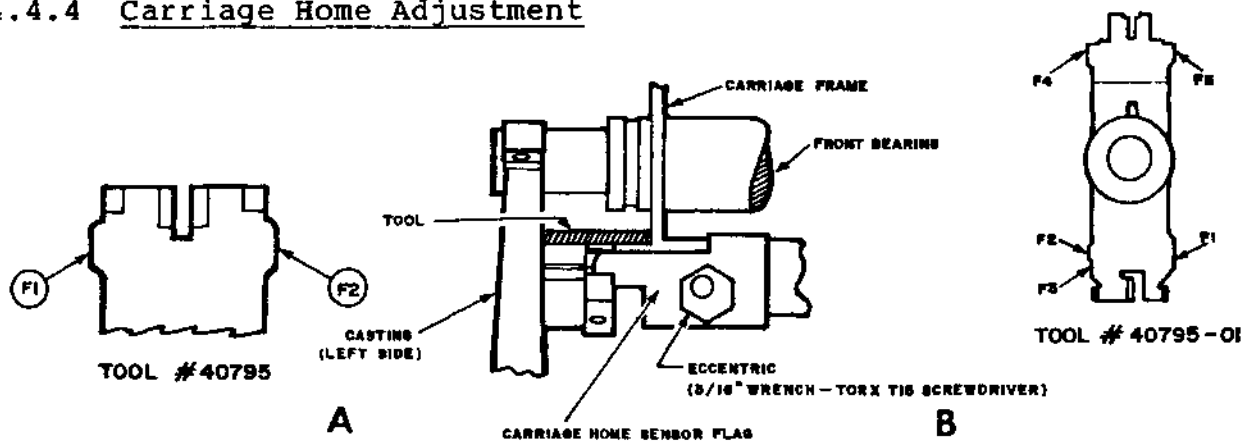

Figure 5-27 CARRIAGE HOME ADJUSTMENT
Refer to Figure 5-27, and to subsection 5.4.2.3.
- # Insert the Adjustment Tool between the left side of the printer's main frame casting and the carriage frame just above the carriage home sensor, as shown in Figure 5-27(A). Check for a cumulative clearance of no more than .017" between the tool's carriage home alignment tab features F1/F2 and the printer assemblies.
- # Insert the Adjustment Tool between the left side of the printer main frame casting and the carriage frame, just above the carriage home sensor, as shown in Figure 5-27(B). Using tool features F1 through F5, check for proper passage of the tool as follows: